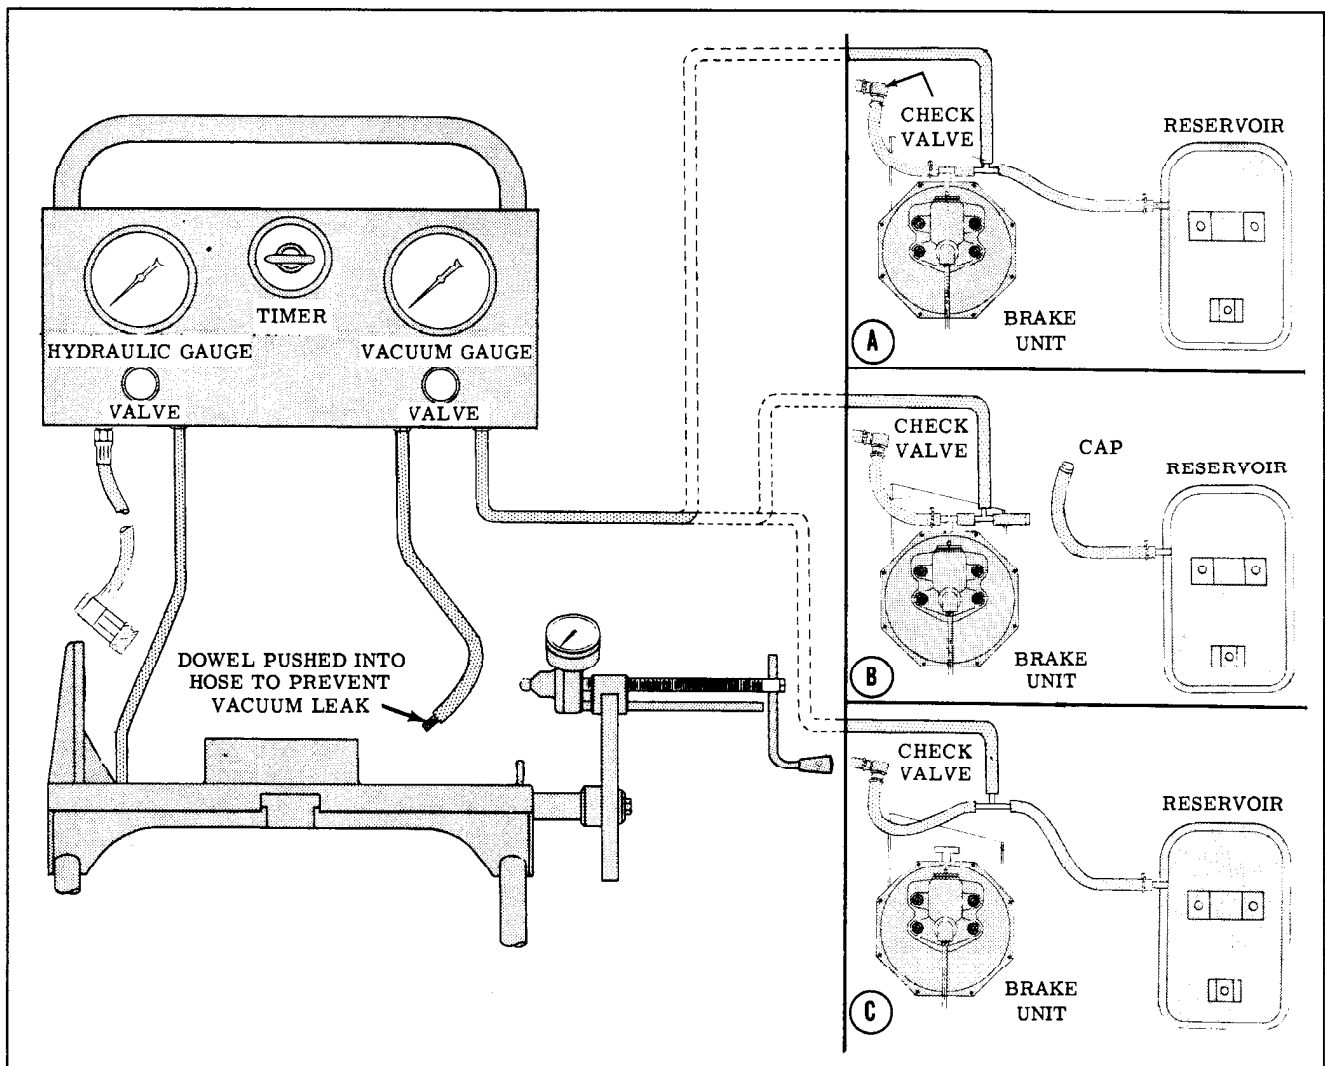

Fig. 7-36 Hose Connections (Testing on Car)
1. Connect tester hoses as shown in Fig. 7-36 Inset A.
1. Connect tester hose as shown in Fig. 7-36, Inset B.
1. Connect test hoses as shown in Fig. 7-36, Inset C.